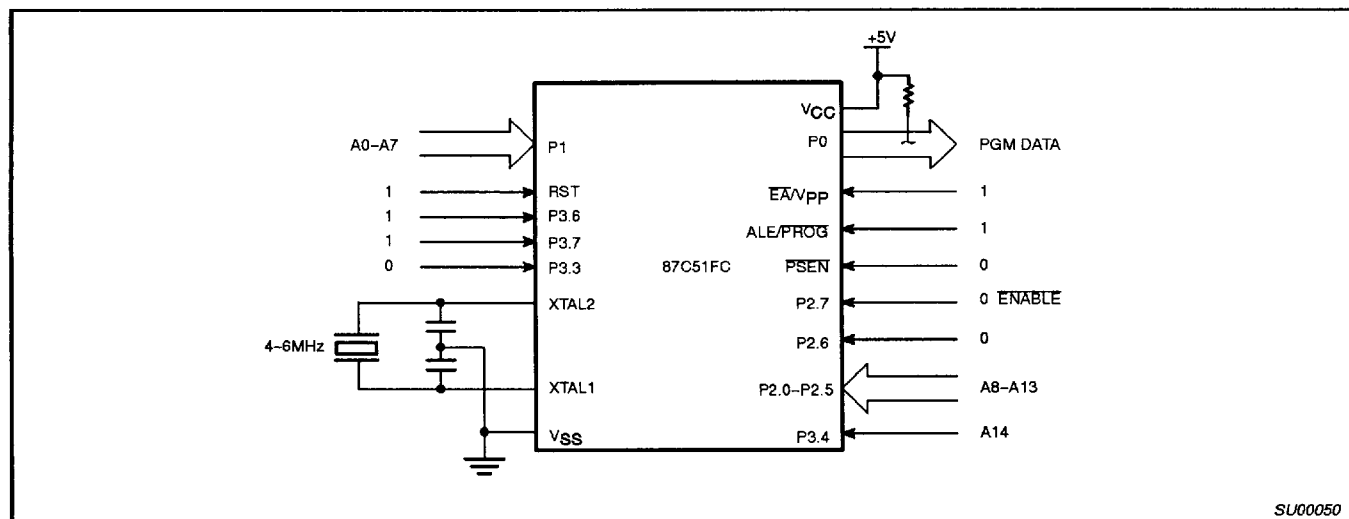

Figure 18. Program Verification
- FOR VERIFICATION CONDITIONS SEE FIGURE 18.